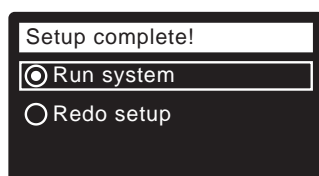

FIG. 29
22. Press the SELECT (O) button. The screen will show "Setup complete!" (See Figure 29).
23. If, at this point, you want to go back and make changes, press the DOWN (▼) button to scroll to **Redo setup**, then press the SELECT (O) button twice to repeat the "wizard" screens.
24. If no changes are desired, make sure **Run system** has a dot next to it (See Figure 29) and press the SELECT (O) button. The unit begins normal operation, described on Page 15.